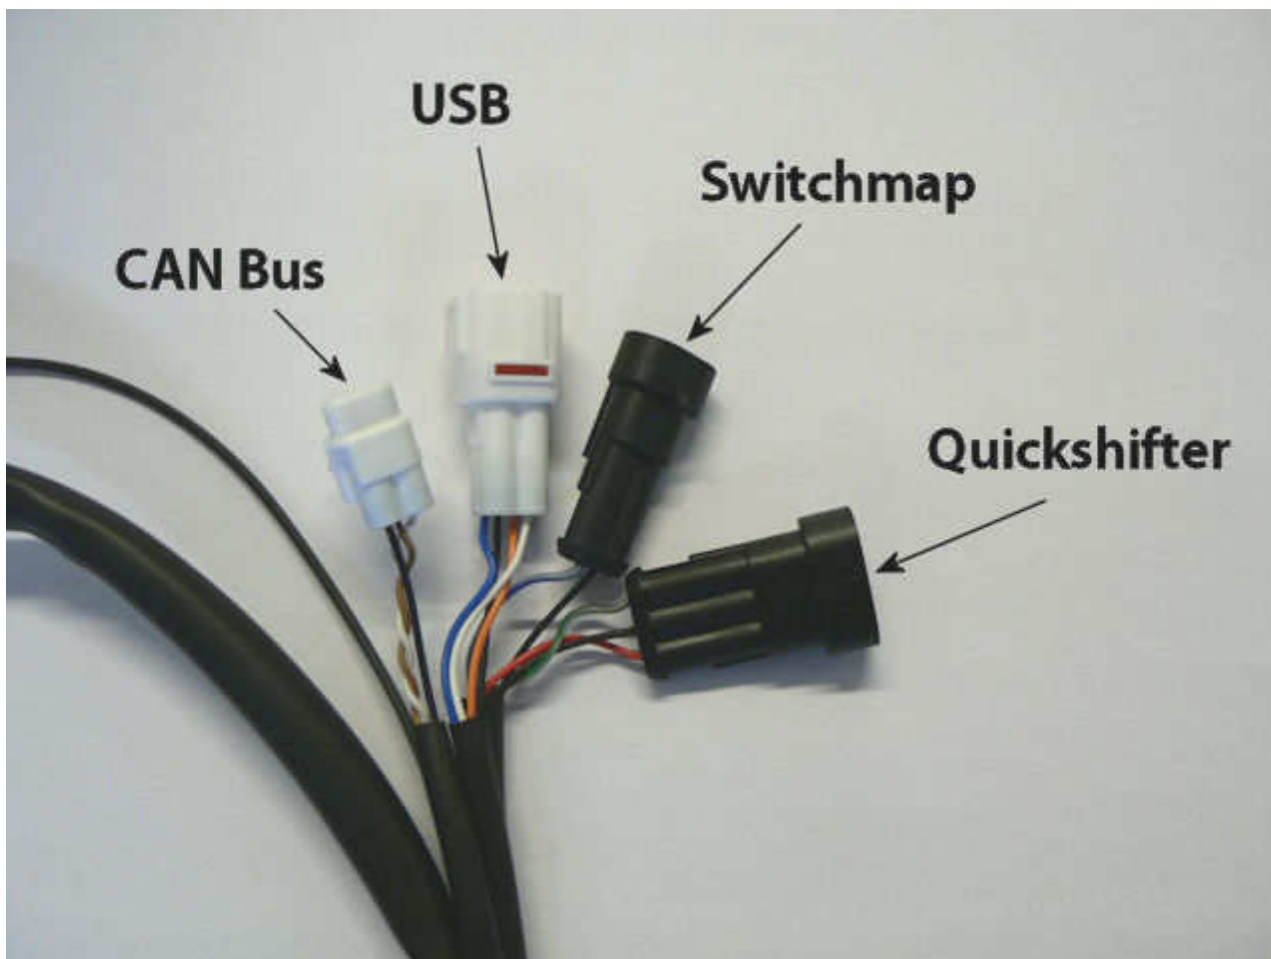

Fig.12
16. Fix the module in the gloves compartment (**Fig.12**).